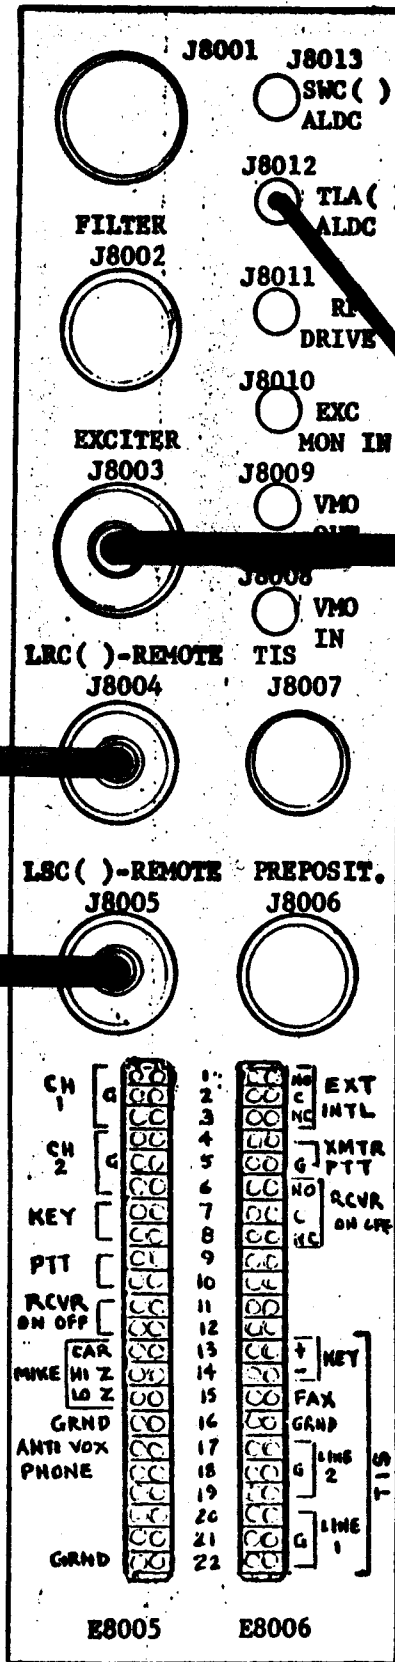

Fig. 3
- Step 6: Disconnect the LSCA cable from J8005 on the junction box in the transmitter (Fig. 3).
- Step 7: Disconnect the LRCA cable from J8004 on the junction box in the transmitter (Fig. 3).
- Step 10: Disconnect the SMEC-1 cable from J8003 and J8012 on the junction box in the transmitter (Fig. 3).